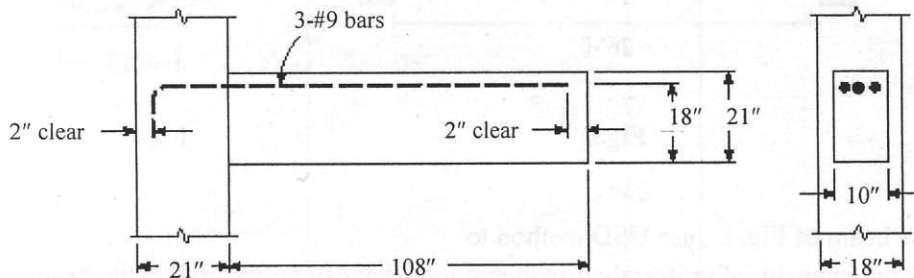

Fig.10
13. The tensile flexural reinforcement required in the cantilever beam shown in Fig.10 is  $A_s = 2.80 \text{ in}^2$ , which is provided by 3 #9 bars (for  $d = 18''$ ), while #3 transverse reinforcements with 1.5" cover are provided starting at 4" from column face, with 3 @ 8" c/c and 5 @ 10" c/c.